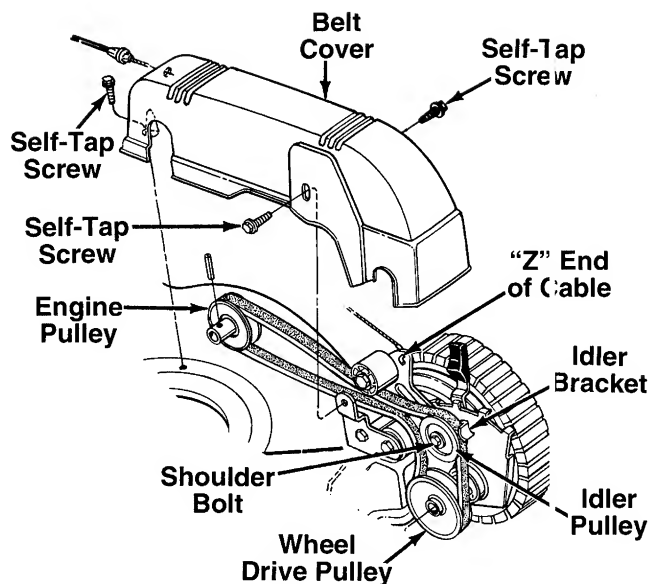

FIGURE 20.
4. Remove the belt cover by removing three self-tapping screws. See figure 20.
5. Unhook "Z" end of drive cable from idler bracket assembly. See figure 20.
6. Remove idler pulley from idler bracket by removing the shoulder bolt, flat washer, cupped washer and hex nut. See figure 20.